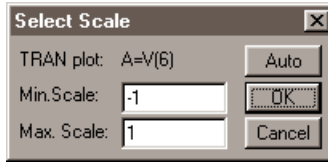

Figure 6.34. Use this dialog box to enter new scale limits for the XSPICE plots.
- 5 While the XSpice window is displayed, you can change the scale for a single plot window by clicking the window to pause the simulation and display the dialog box shown in Figure 6.34.